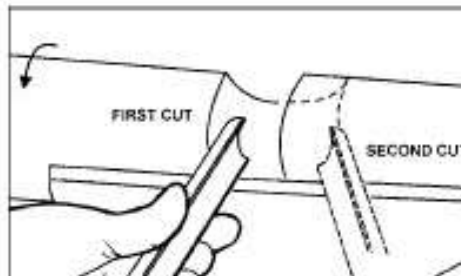

FIG. 15
3. With the flute facing the opposite direction, repeat step 1 for other side of cove. Stop at bottom of cut, see Figure 15.